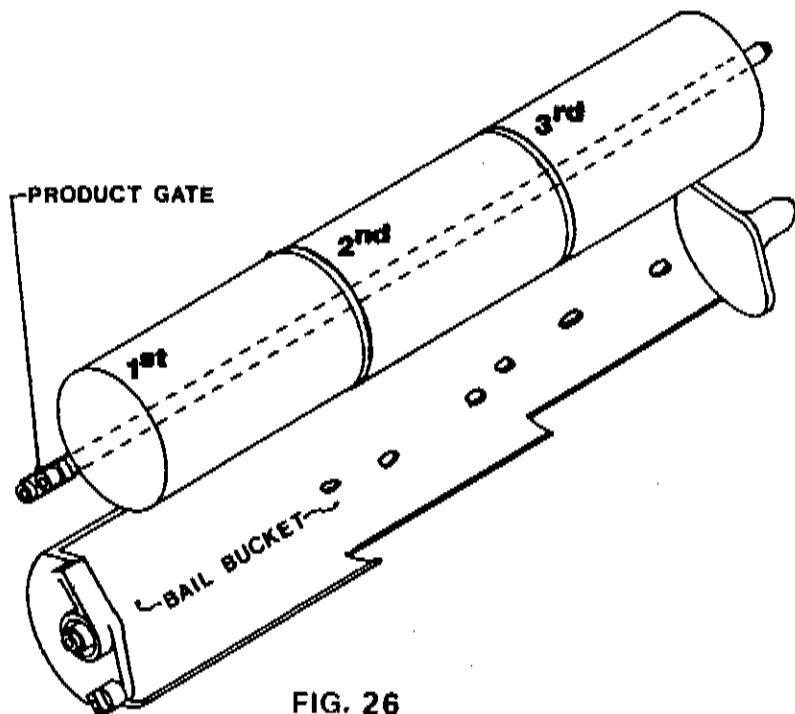

FIG. 26
- c) FOR TRIPLE DEPTH: Load first and second products as describe above then load third product on gate directly behind second product. SEE FIGURE 26